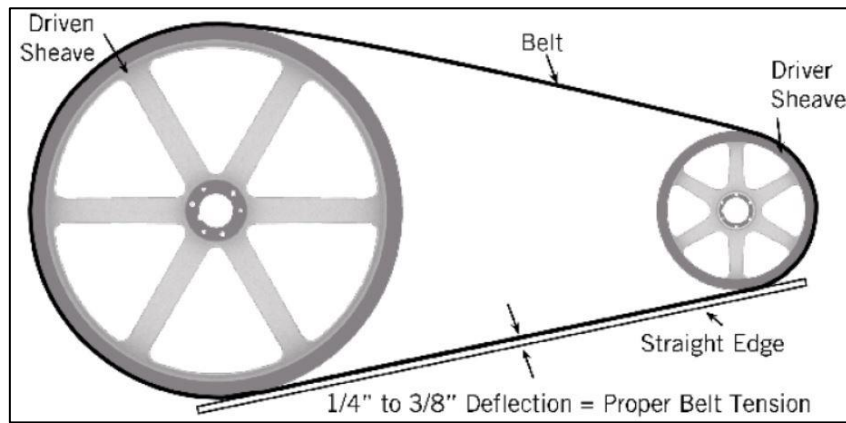
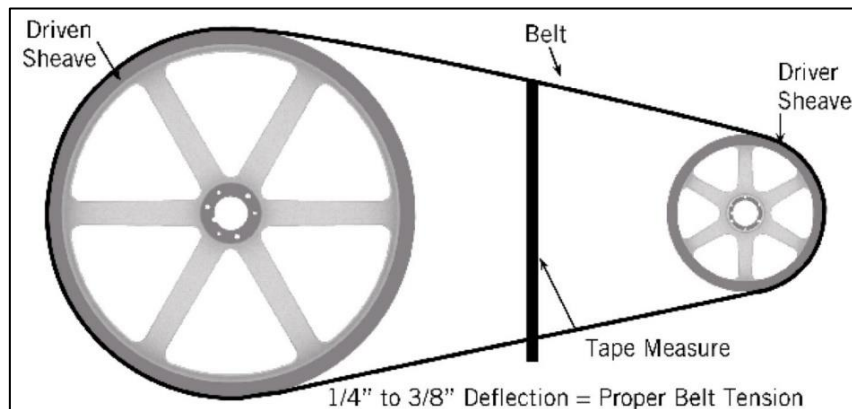

Figure 7. Belt Tension with a Straight Edge
Figure 8. Belt Tension with a Tape Measure
- Place a straight edge along the belt from sheave to sheave as shown in **Figure 7** or use a tape measure as shown in **Figure 8** to measure belt deflection.
- There is adequate belt tension if the belt deflects between 1/4” and 3/8” as shown in **Figure 7** and **Figure 8**.